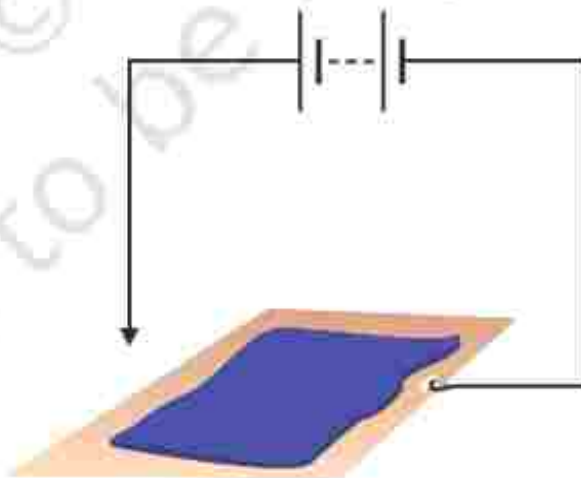

Fig. 11.11
6. You can make a fun pen for yourself. Take a conducting metal plate and spread a moist paste of potassium iodide and starch. Connect the plate to a battery as shown in Fig. 11.11. Now using the free end of the wire, write a few letters on the paste. What do you see?